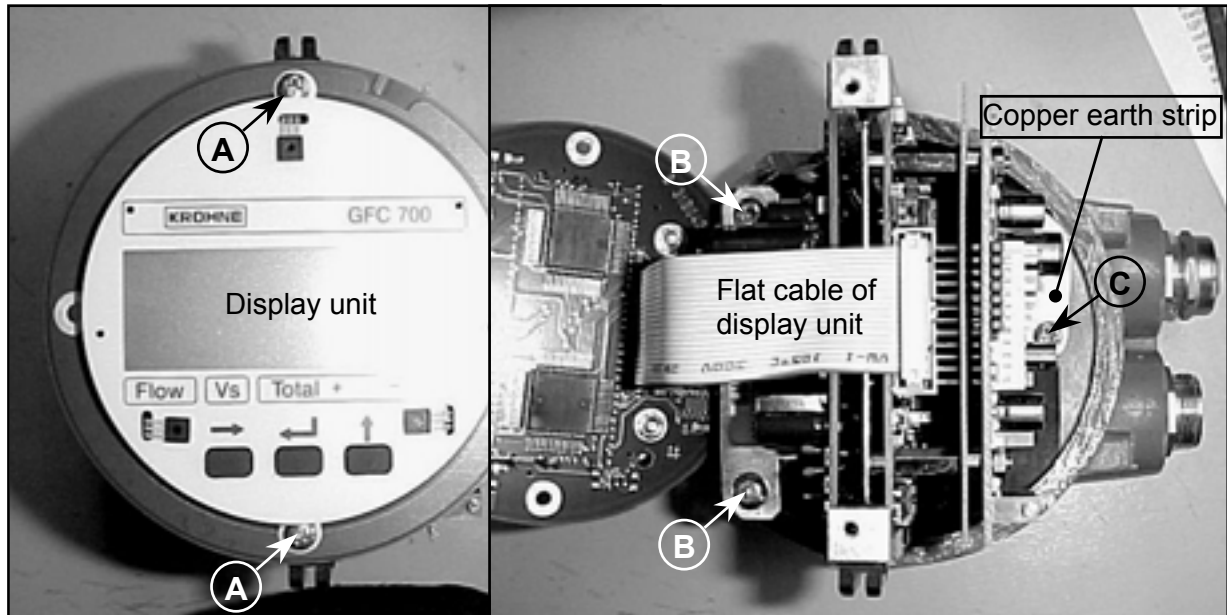

Figure 5: Display unit (left) / Electronics unit after removal of display unit (right).
- ◆ The copper grounding strip at the back of the electronics unit **must** be securely screwed to the housing (back-end of electronics compartment) by screw **C** (see Figure 5). The electronics unit is mounted to the back-end of electronics compartment by two screws **B**. Before screws **B** and **C** can be accessed, the display unit must be removed via screws **A**.
2. Unscrew the two screws **A** of the display unit and disconnect the display unit via the flat cable connector (see right picture of Figure 5 on the previous page).